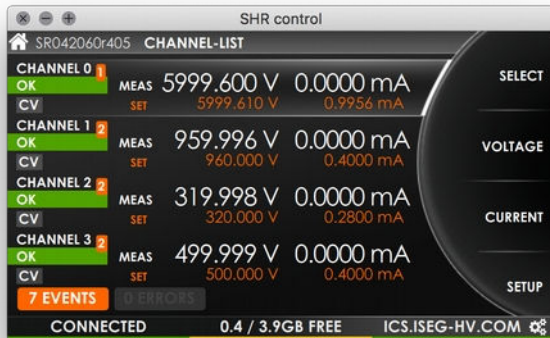

Figure 10 - SHRcontrol CHANNELLIST VIEW
- All Channels and device: Click on on the event / error badge on the bottom of the screen (here „7 EVENTS“, see Figure 10 - SHRcontrol CHANNELLIST VIEW)